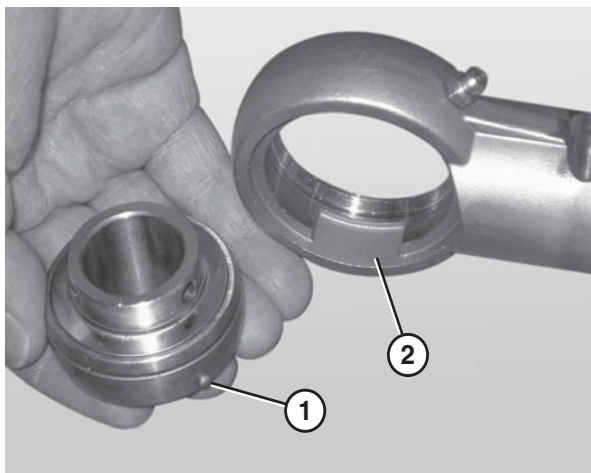

Figure 79
4. Remove the worn or damaged bearing (**Figure 79**) to 54 in•lbs. Check after 24 hours of conveyor use.
*When inserting the new bearing, make sure the anti-rotation notch (**Figure 79, item 1**) on the bearing lines up with the groove inside the housing (**Figure 79, item 2**).*